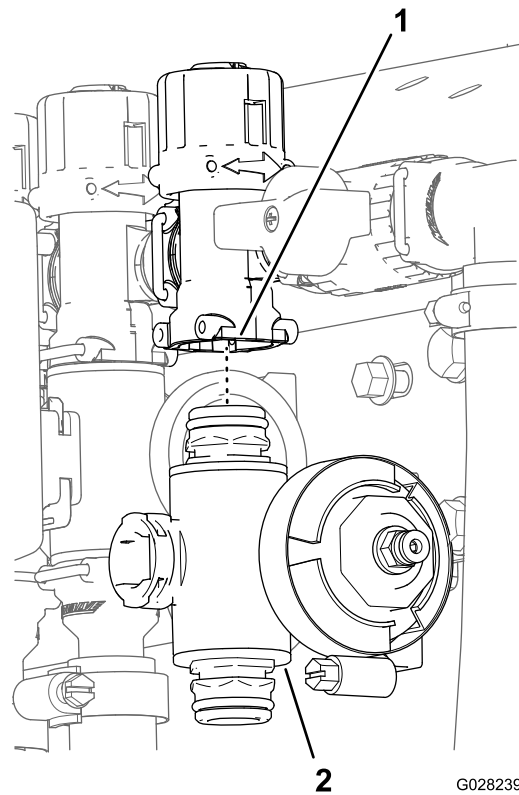

Figure 116
- Remove the section valve manifold from the machine (Figure 116).